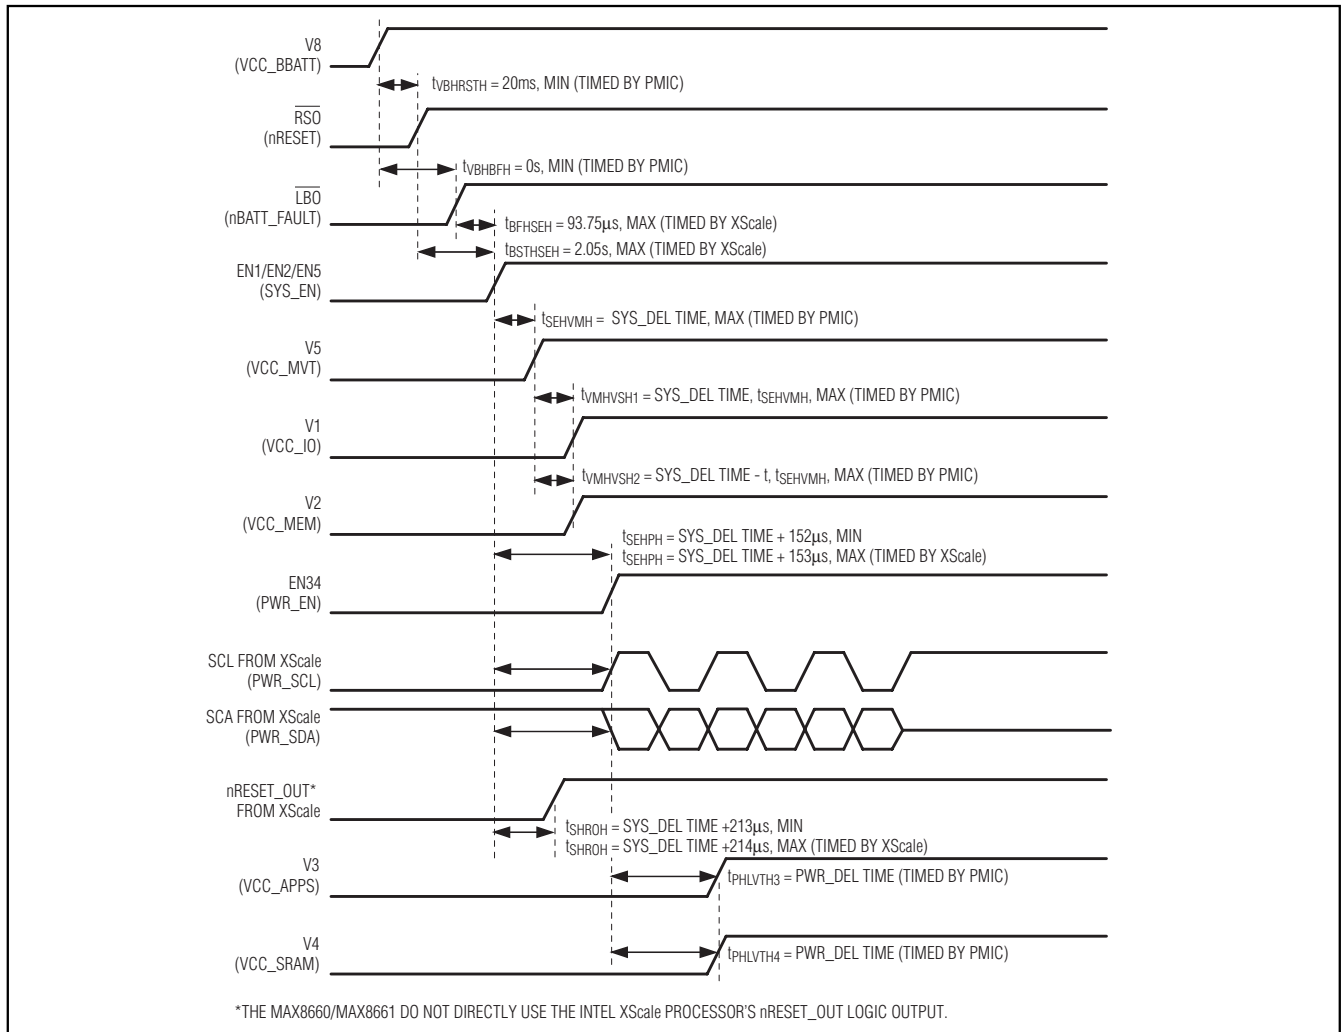

Figure 6. Power-Up Timing
Figure 6 shows the power-up sequence for the Intel XScale family of processors. In general, the supplies should power up in the following order:
- The PCFR register contains timers for the SYS\_DEL and PWR\_DEL timing parameters as shown in Figure 6. Each timer defaults to 125ms. When using the MAX8660/MAX8661, these timers may be shortened to 2ms to speed up the overall system wake-up delay.